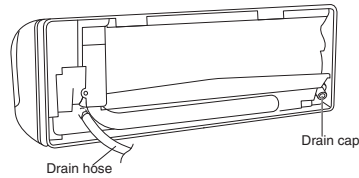

Fig. 3-64
- (a) Locate the drain hose and the drain cap. (Fig. 3-64)
- (b) Remove the screws fastening the drain hose on the right side, and pull out the drain hose to remove it. (Fig. 3-64)